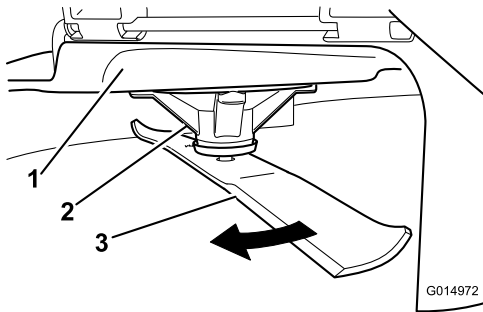

Figure 86
2. While wearing thickly padded gloves, or other adequate hand protection, slowly rotate the blade into a position that allows you to measure the distance between the cutting edge and the level surface the machine is on (Figure 86).